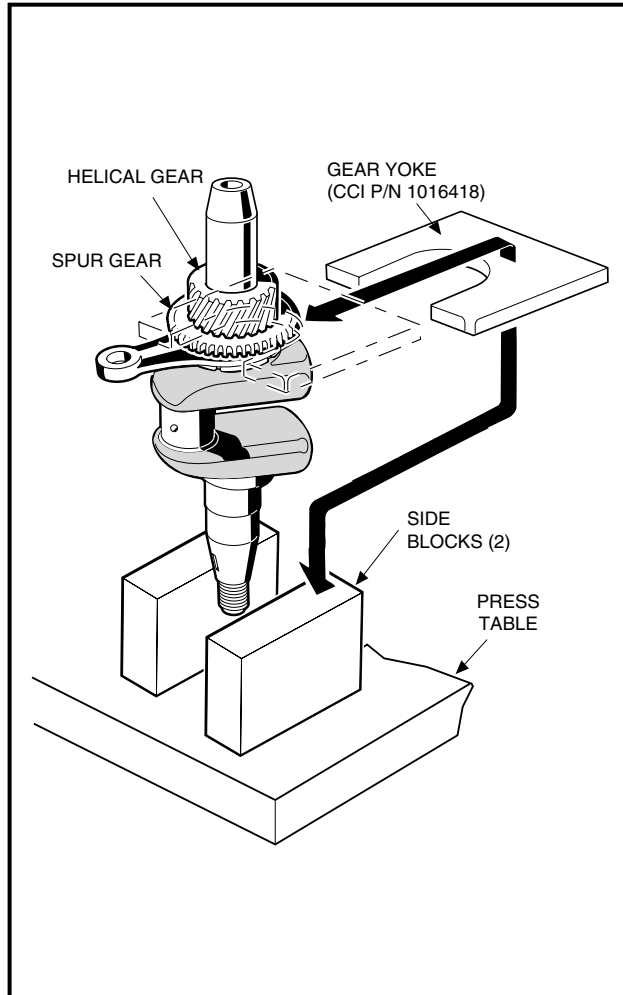

Figure 13-74 Place Assembly in Press
2. If the link rods need replacing, place the gear yoke (CCI P/N 1016418) under the spur gear with the small end of the connecting rod located opposite the crankpin (**Figure 13-74, Page 13-37**).